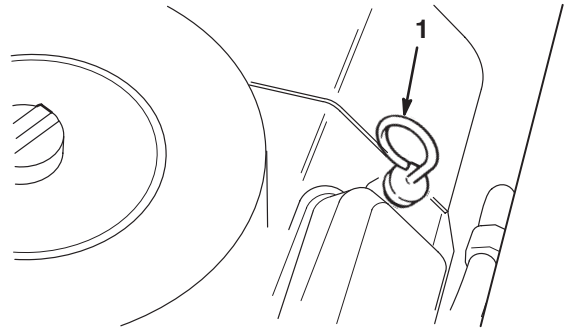

Figure 6
3. Pull out the dipstick (Fig. 6) and wipe it with a clean rag. Insert the dipstick into the tube and make sure that it is seated fully. Remove the dipstick from the tube and check the oil level. If the oil level is low, remove the filler cap from the valve cover (next to the dipstick) and add enough oil to raise the level to the FULL mark on the dipstick.